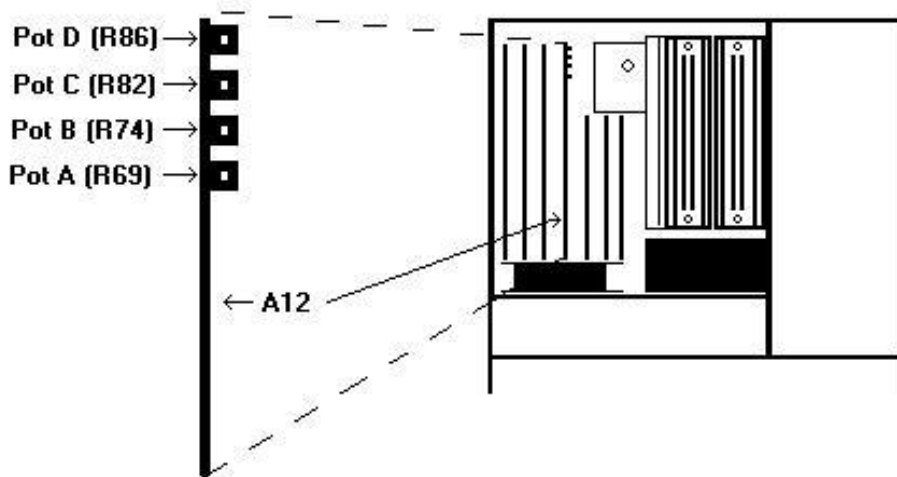

Figure 3. I/O adjustment location.
- (1) Adjust A12 pot A (R69) (fig. 3) for a -2.0000 ± 0.0005 V dc multimeter indication (R).
- (2) Adjust A12 pot B (R74) (fig. 3) for a 2.0000 ± 0.0005 V dc multimeter indication (R).
- (3) Adjust A12 pot D (R86) (fig. 3) for a -2.0000 ± 0.0005 V dc multimeter indication (R).
- (4) Adjust A12 pot C (R82) (fig. 3) for a $+2.0000 \pm 0.0005$ V dc multimeter indication (R).